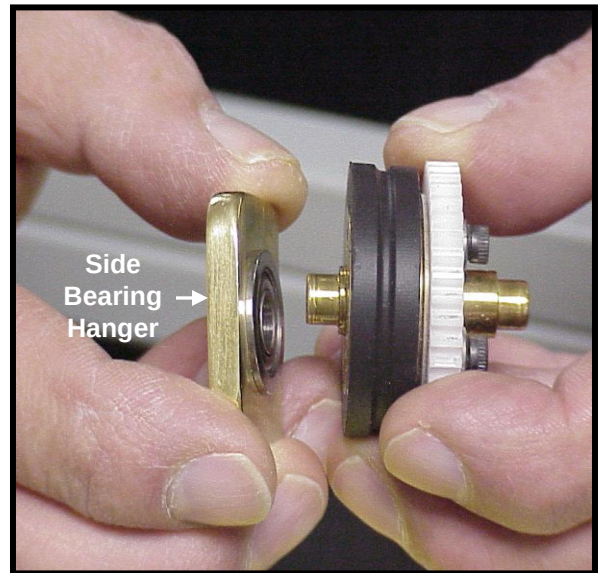

Figure 42
14.3.2.6 Slide Drive Wheel-side Bearing Hanger off the hub shaft. **See Fig. 42.**